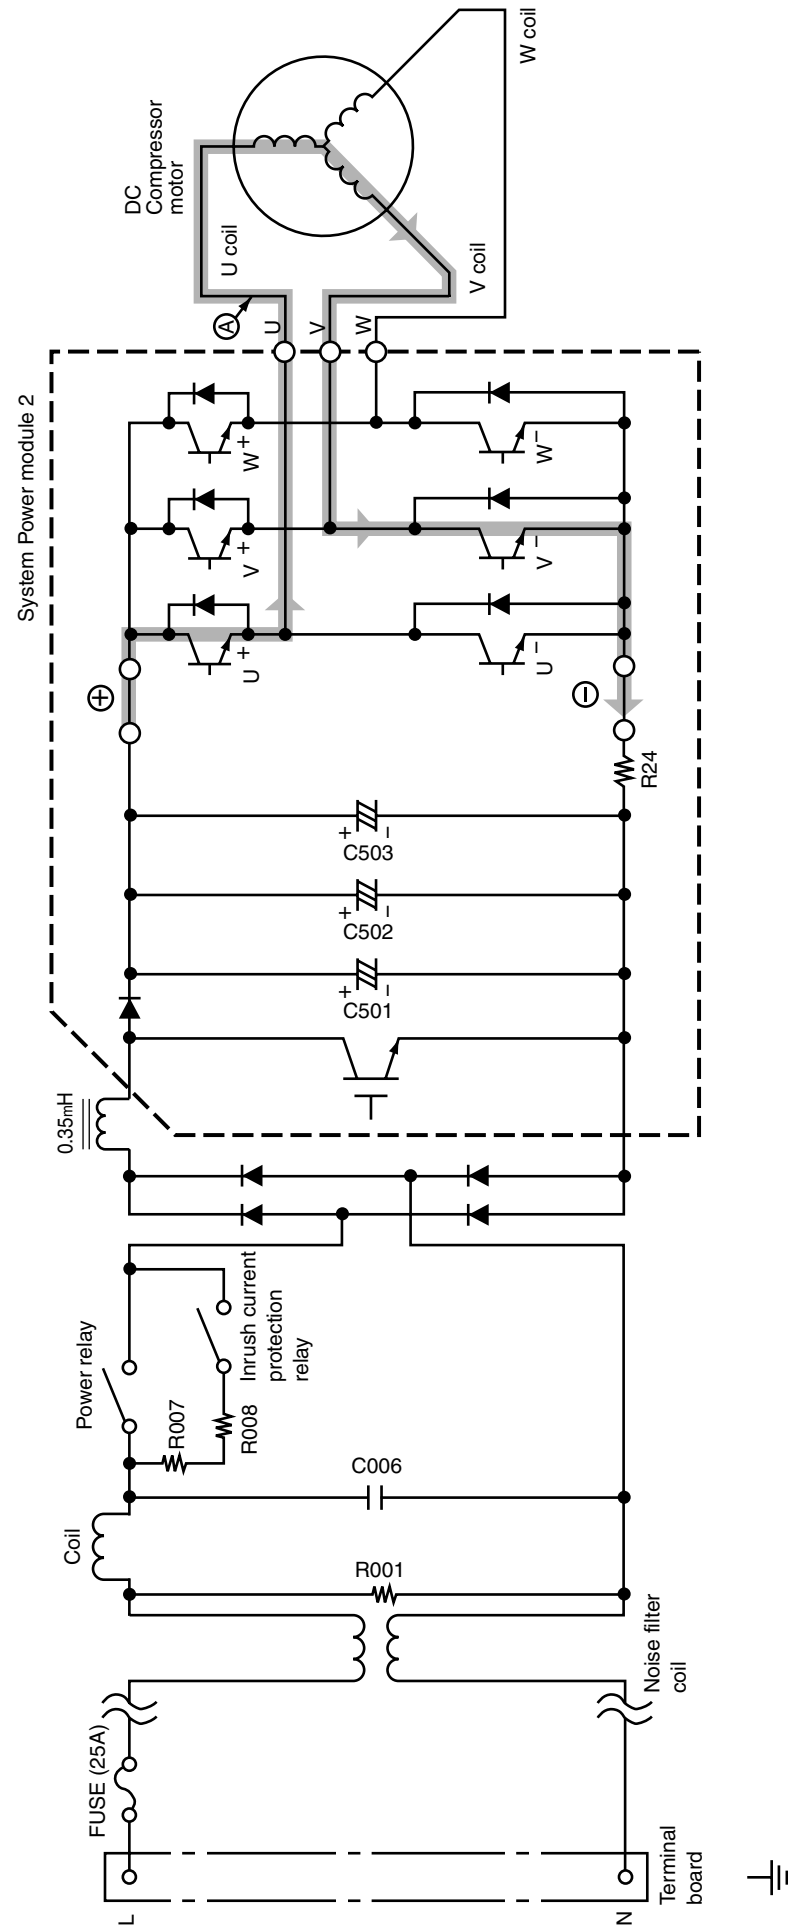
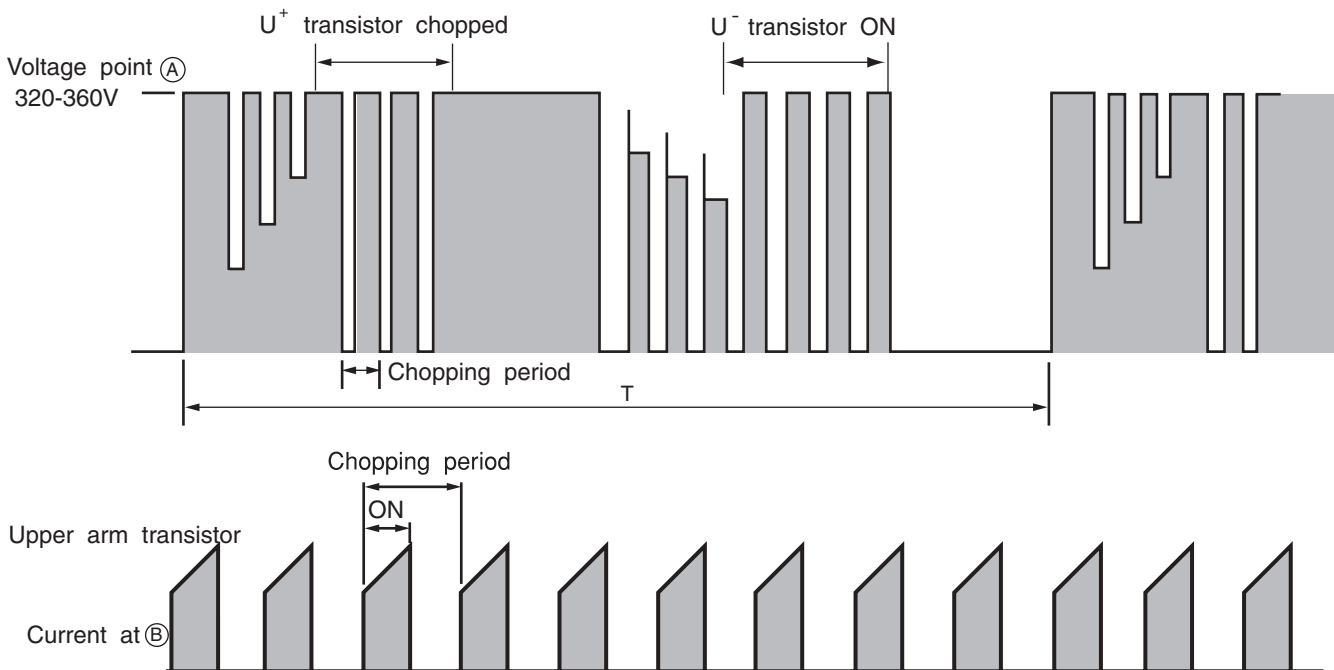

Fig. 3-1 Power module circuit (U+ is ON, V- is ON)
Fig. 3-3 Voltage waveform at each point
- Fig. 3-1 shows the system power module and its peripheral circuit. (Current ACT module and power module are combined into one unit.) The three transistors on the positive  $\oplus$  side are called the upper arm, and the three transistors on the negative  $\ominus$  side, the lower arm.
※ At point E: U+ is ON, V- is ON (circuit in Fig. 3-1)
- Fig. 3-3 shows voltage / current waveform at each point shown in Figs. 3-1 and 3-4. First half of upper arm is chopper, second half is ON, and first half of lower arm is chopper, second half is ON.
- When power is supplied U+ → U-, because of that U+ is chopped, current flows as shown below; ②
- (1) When U+ transistor is ON: U+ transistor → U coil → V coil → V- transistor → DC current detection resistor → Point ② (Fig. 3-1)
- Since current flows at point ② only when U+ transistor and V- transistor is ON, the current waveform at point ② becomes intermittent waveform as shown in Fig. 3-3. Since current at point ② is approximately proportional to the input current of the air conditioner, input current is controlled by using DC current (Id) detection resistor.